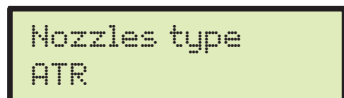

Fig. 65
- First select Nozzles type (ATR, HCC, ISO or USR, Fig. 65).